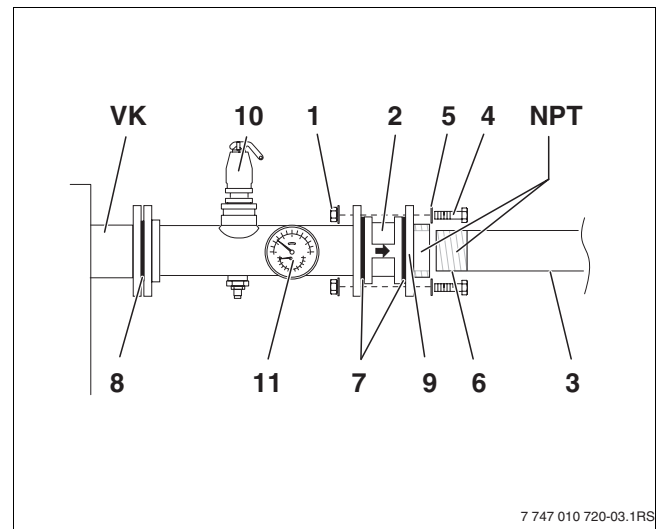

Fig. 24 Installing B-Kit
- Align the B-kit so that the temperature/pressure gauge faces horizontally outwards to the side of the boiler and the pressure relief valve points upwards (→ Fig. 24).
- Fit and seal the temperature/pressure gauge in the connection provided (→ Fig. 24). Any additional safety devices required can be fitted and sealed in the remaining connections. Follow the manufacturers' instructions.